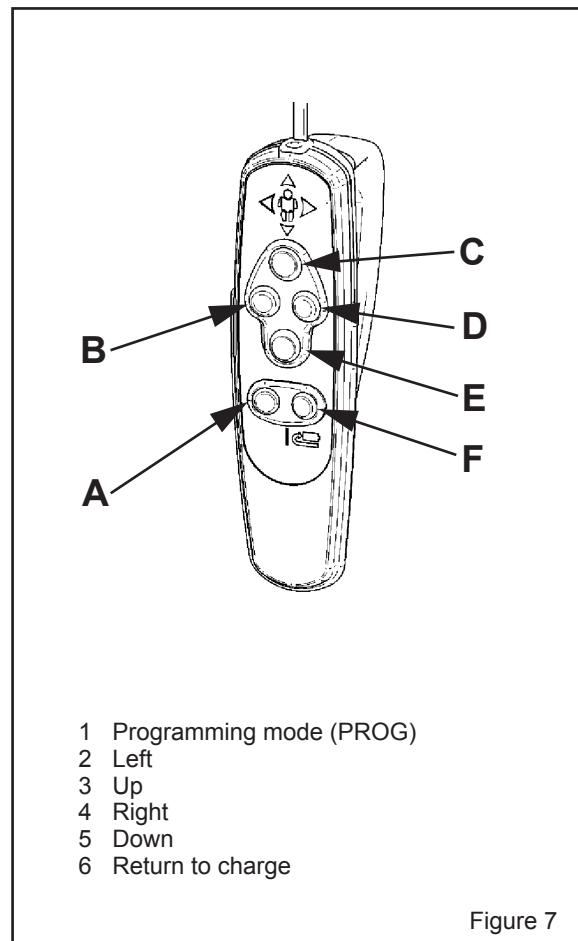

Figure 7
- 2 Move the ceiling lift directly over the resident. Use the left and right buttons on the hand control. See figure 7 on next page.